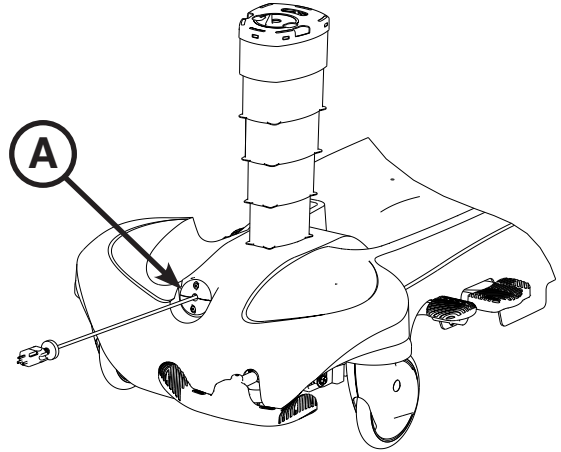

Figure 18: Optional Retractable Cord Reel
The retractable cord reel (A) stores the stretcher power cord during transport as shown in Figure 18.